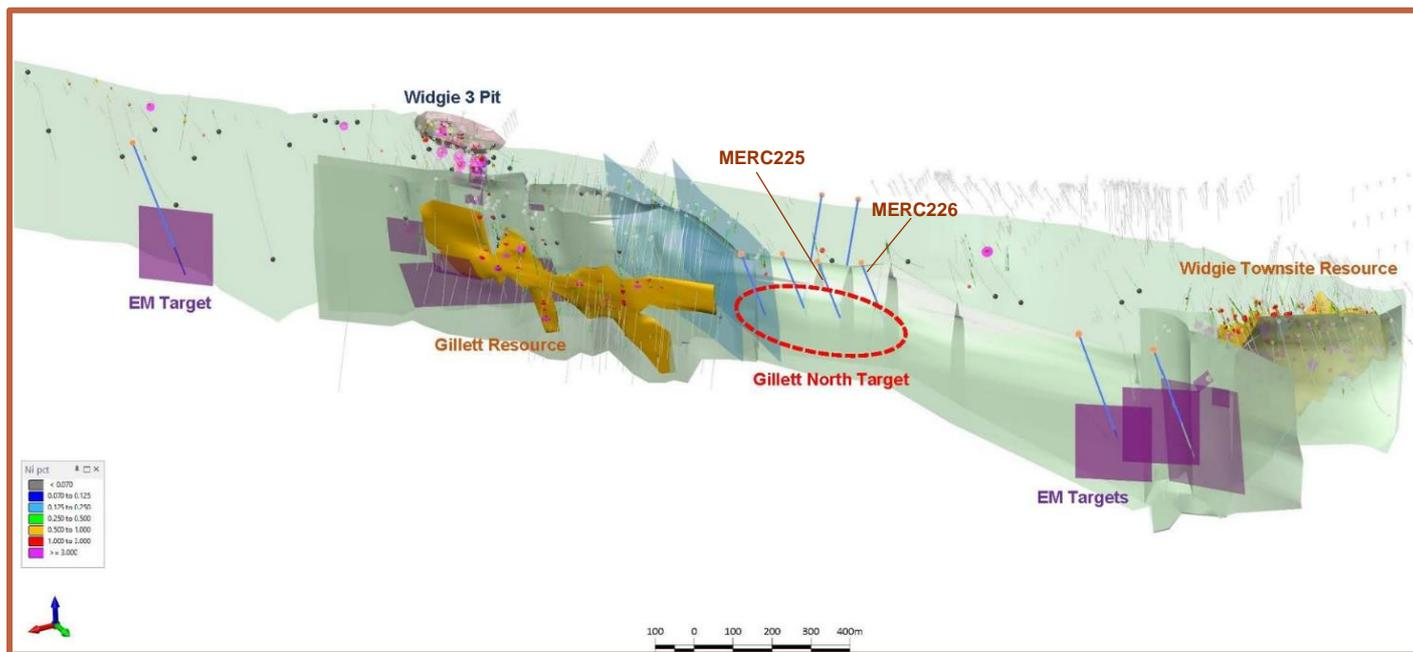

Figure 1 – Oblique long section looking south-west showing Gillett North target proximal to the Gillett & Widgie Townsite Mineralisation
The first Reverse Circulation (RC) exploration drillhole at the Gillett North target (MERC225) encountered significant widths of visual sulphides across two intervals. MERC225 was drilled approximately 300 metres north of the drilling previously announced by the Company (Figure 1; refer ASX announcement 4 April 2022 *Strong Initial Assay Results at Gillett*).